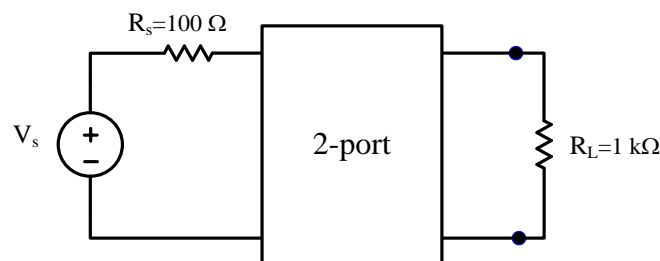

Figure 3: Loaded Two-Port Circuit
1. Build the circuit of Fig. 3 in *Multisim Workbench*.
5. Build the circuit of Fig. 3 with the hardware components.
6. Follow identical steps to (2) and (3) above by applying a 10V DC voltage to the input side. Use voltmeter and ammeter to read the relevant voltage and current.